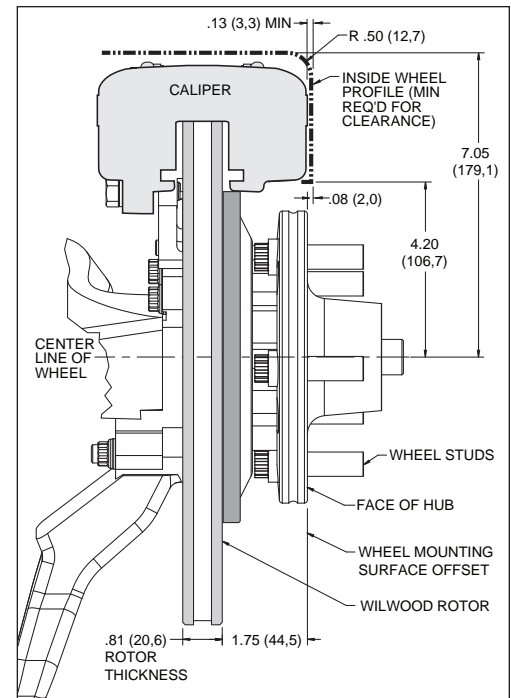

Figure 4. Wheel Clearance Diagram
- Review the Wheel Clearance Diagram (Figure 4, page 4) to verify that there is adequate clearance with the wheels you will be using with the installation.
- Verify wheel clearance using Figure 4.